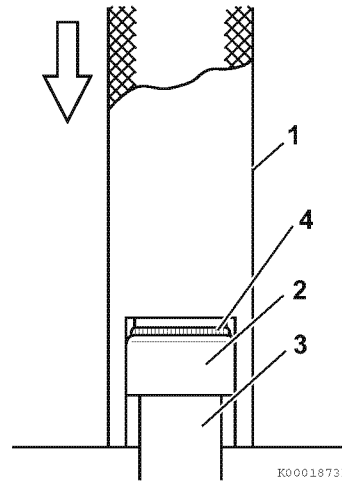

Figure 6-29
1. Oil the lip of the valve stem seal (Figure 6-29, (2)). Using the valve stem seal installation tool (Figure 6-29, (1)), install a new valve stem seal on each of the valve guides (Figure 6-29, (3)).